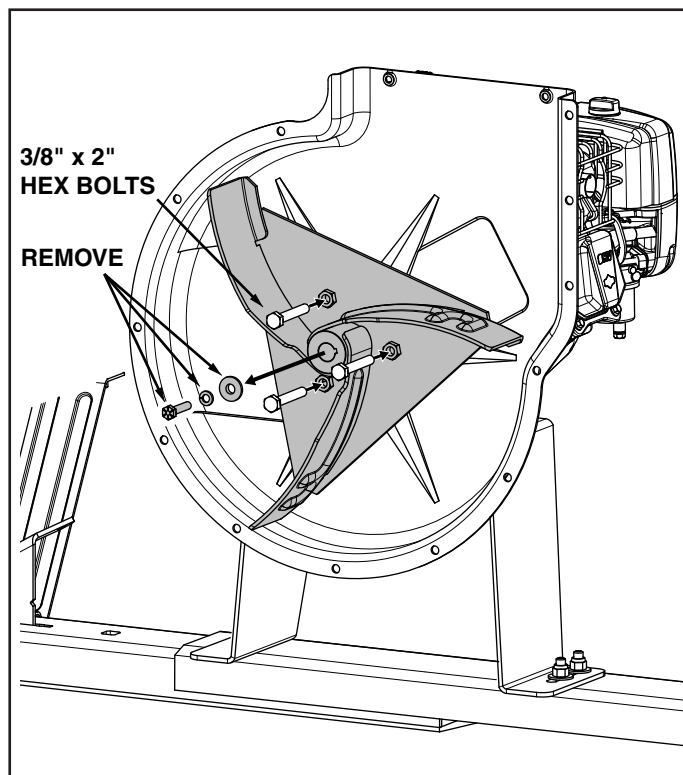

FIGURE 20
2. Remove the bolt from the impeller hub. See figure 20.
3. Screw three 3/8" x 2" full thread bolts into the three nuts welded to the impeller until they contact the housing behind the impeller. See figure 20.